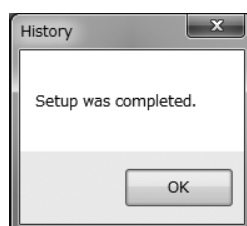

Fig.165
- ⑤ Click "OK" to change the settings to the selected values, and then click the "OK" button in the displayed message box (Fig. 165) to complete the setting process.